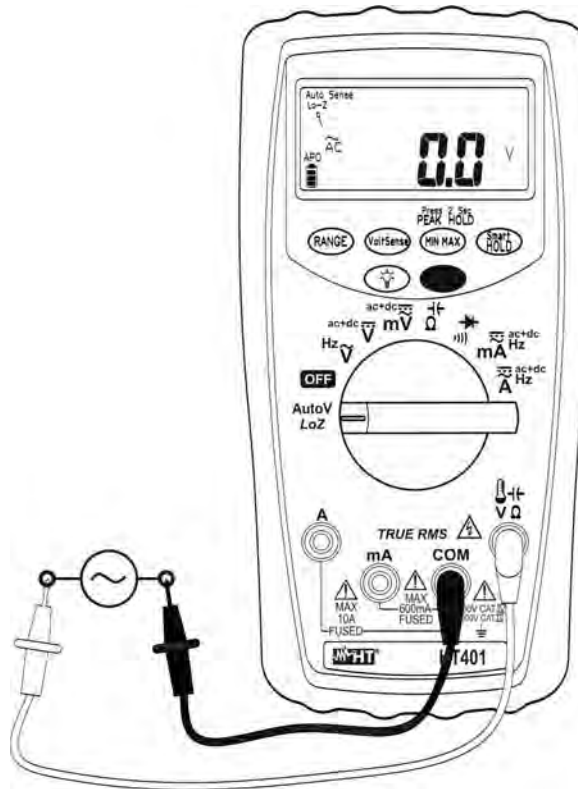

Fig. 4: AC voltage with low impedance (LoZ)
2. Insert the red cable into input lead $\text{V}\Omega$ and the black cable into input lead **COM** (see Fig. 4)